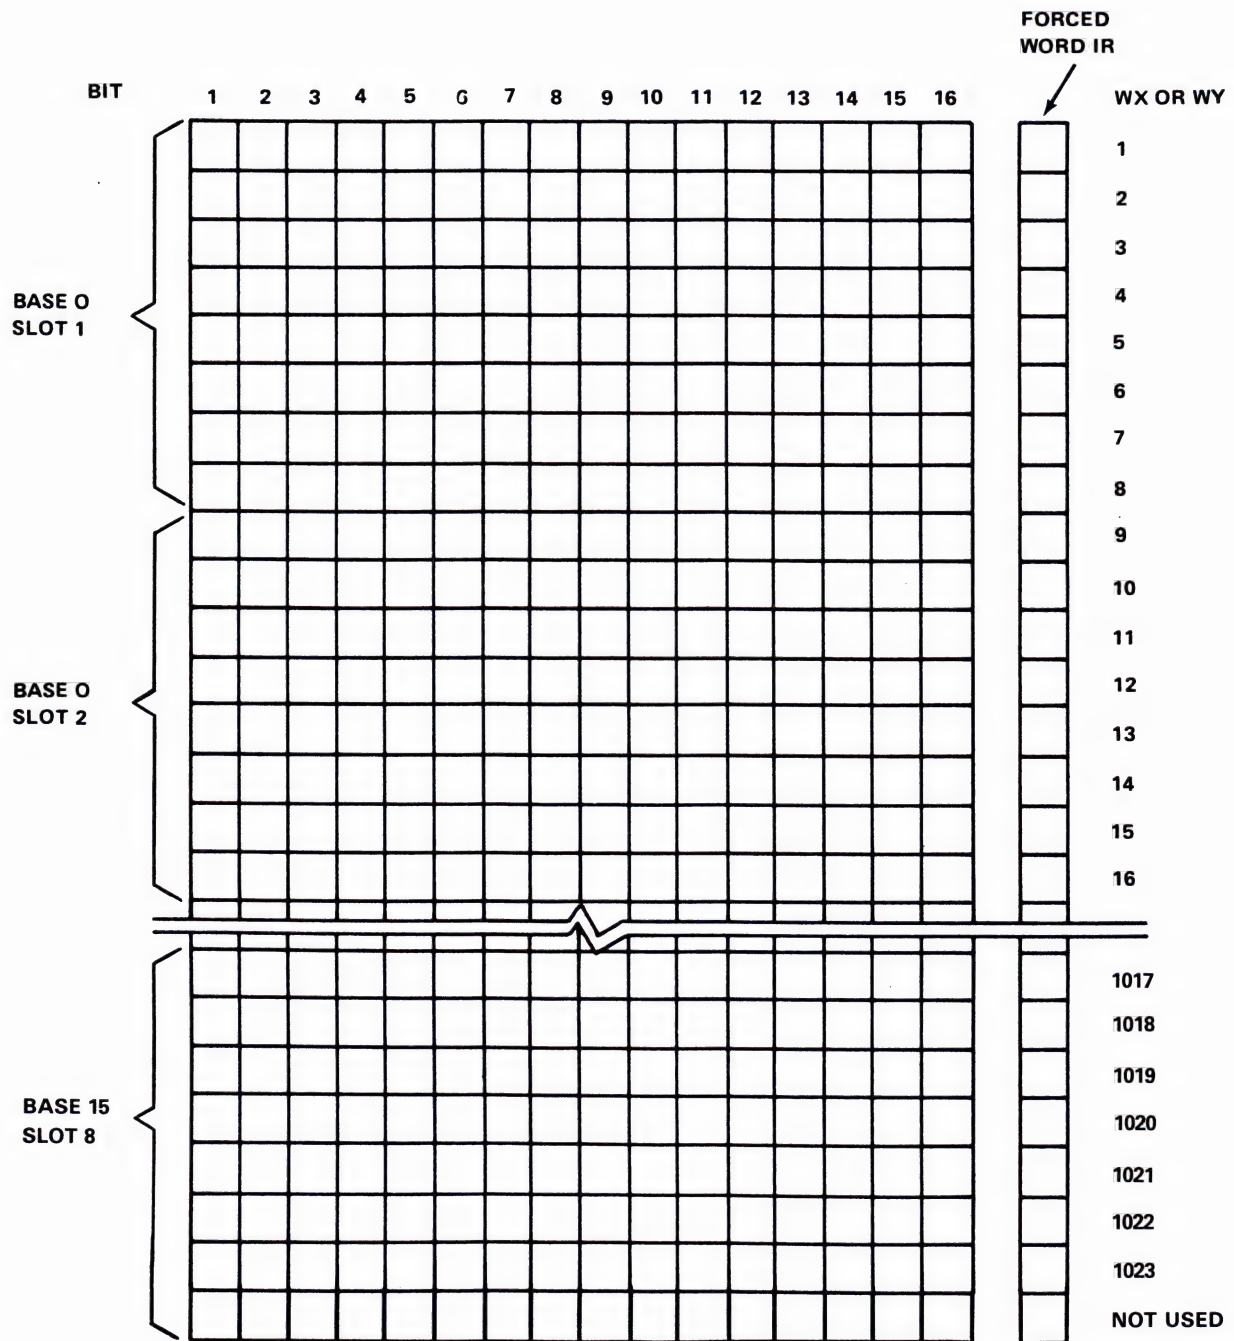
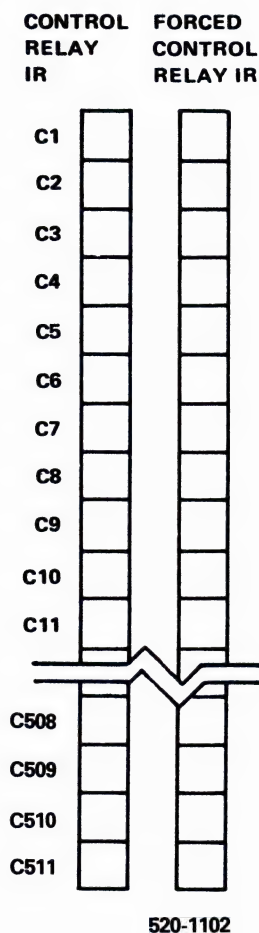

Figure 2-5 Default Word and Forced Word Image Registers
Figure 2-6 Default Control Relay and Forced Control Relay Image Registers
The Word Force Register (Figure 2-5) provides a single-bit storage location for the force status (forced or unforced) of each word input (WX) or output (WY). Storage space is provided for 1023 I/O force points.
2.5.1.5 Control Relay (C) Image Register.
The Control Relay Image Register (Figure 2-6) provides a single-bit storage location for the status of each control relay (C). The specific number of control relays depends on the model you are working with and is listed in the Features table (see Figure 2-5).